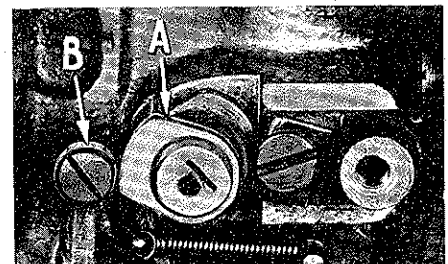

Fig. 16
To accomplish this setting turn handwheel in operating direction until needle is on the down stroke on the left side and the point of needle is approximately 1/32 inch from the center of lining plunger. Now, loosen screws in lining plunger cam (A, (Fig. 16) and rotate cam in counterclockwise direction until follower roller (B) is just leaving high lobe. (Examine contact surface of cam and note high lobe; it appears as a raised flat about 1/16 inch long). Retighten screws in the cam.